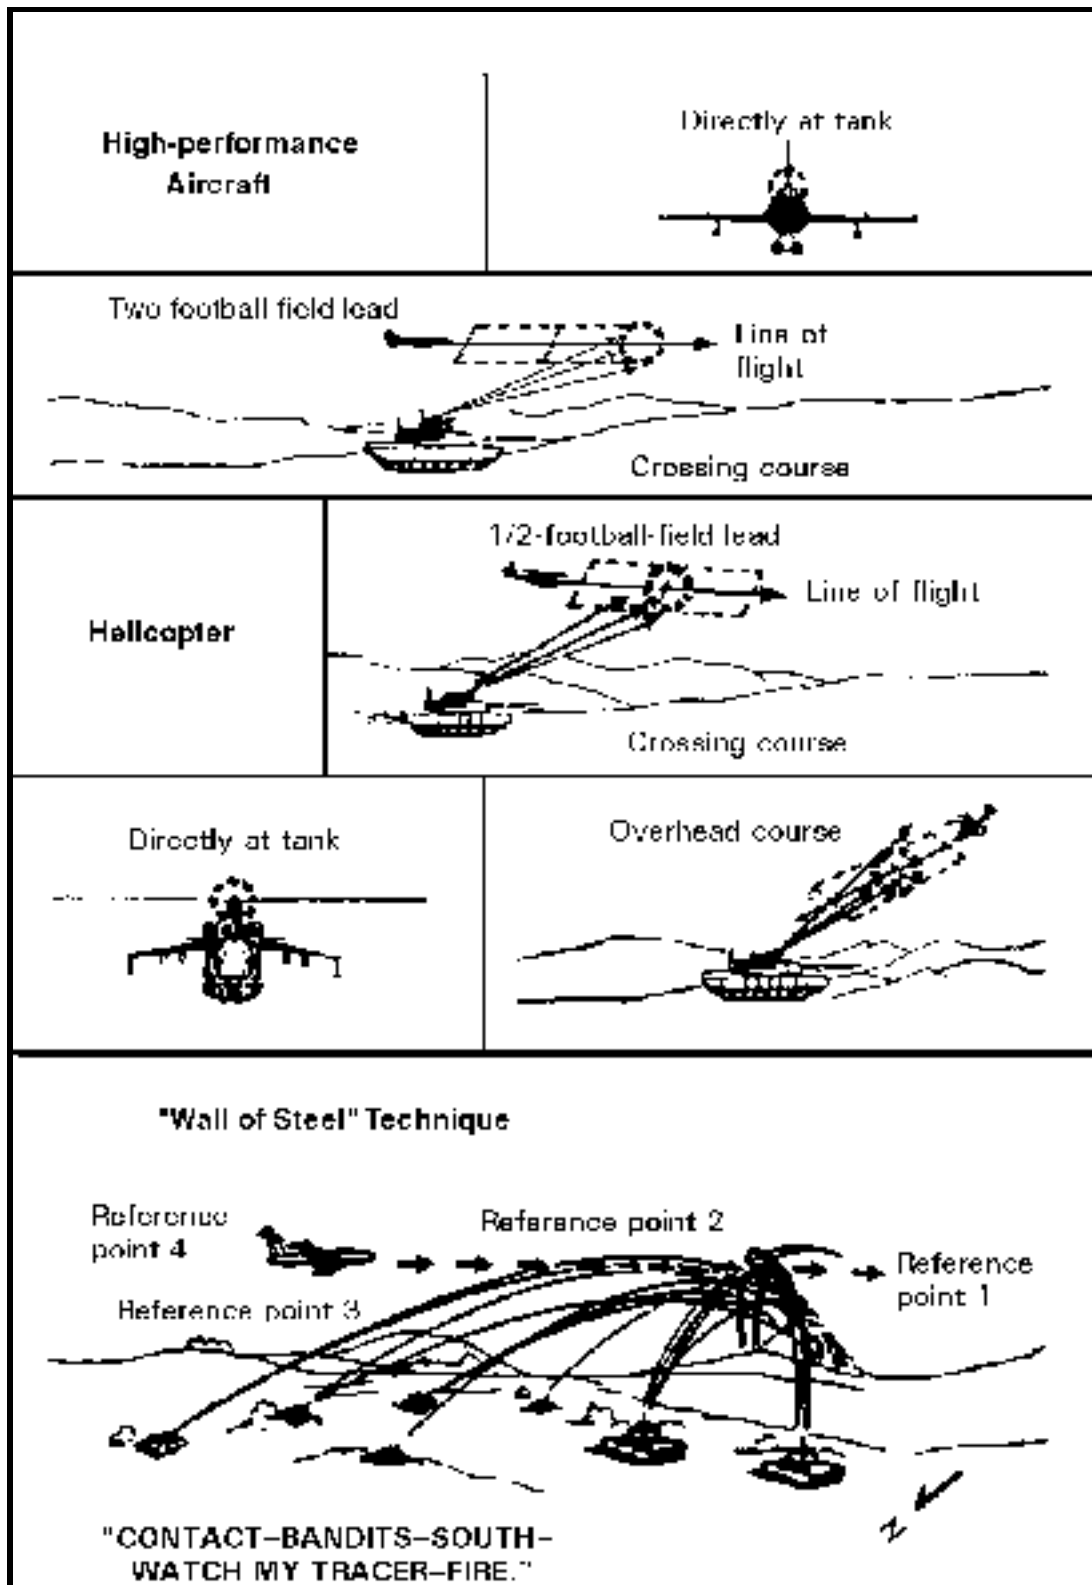

Figure 3-18. Machine gun aim points.
Step 1. The platoon initiates fire. The primary intent is to force air craft to take self-defense measures that alter their attack profile and reduce their effectiveness. The platoon leader may use a burst of tracers to designate an aim point for platoon machine gun antiaircraft fires (see Figure 3-18). Volume is the key to effectiveness of these fires; tanks throw up a "wall of steel" through which aircraft must fly. The main gun is effective against hovering attack helicopters. The platoon leader may also direct some vehicles to engage high-performance aircraft with MPAT main gun rounds.